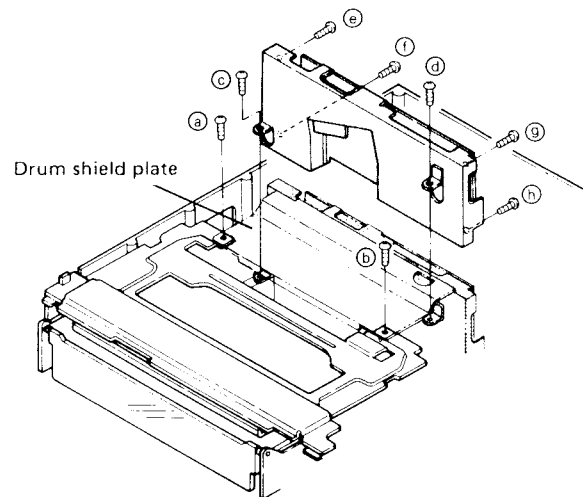

Fig. 2-10
- 2) Remove the two screws (c and d) retaining the PCB HEAD AMP and remove the PCB HEAD AMP by lifting in an upward direction as shown in Fig. 2-10.